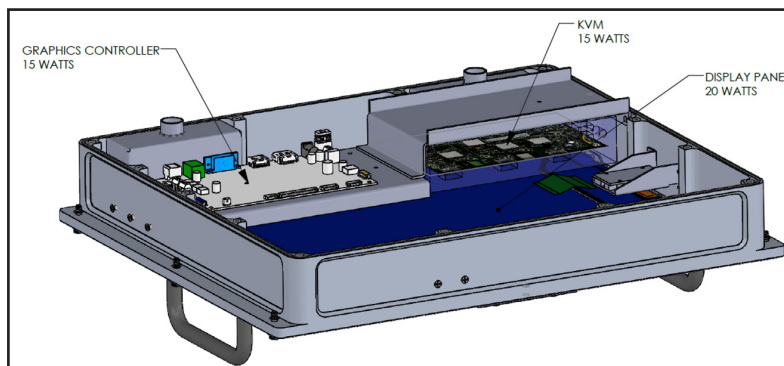

Figure 1. The 241 W Ruggedized Rackmount System
- Sealed enclosure with limited natural heat escape paths (Figure 1)